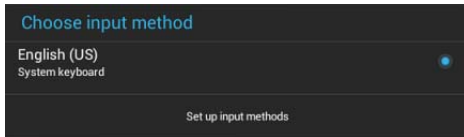

FIG. 71 Choose Input Method window
- In the *Language & Input* page, under *KEYBOARD & INPUT METHODS*, press **Default** to open the *Choose Input Method* window (FIG. 71):